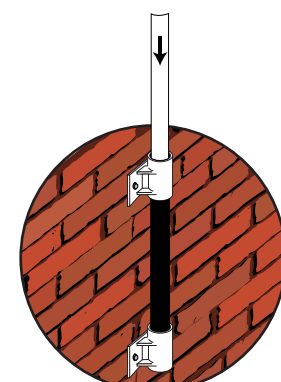

Fig 8.
8. Mount the pole into the ground socket (see Fig 8).